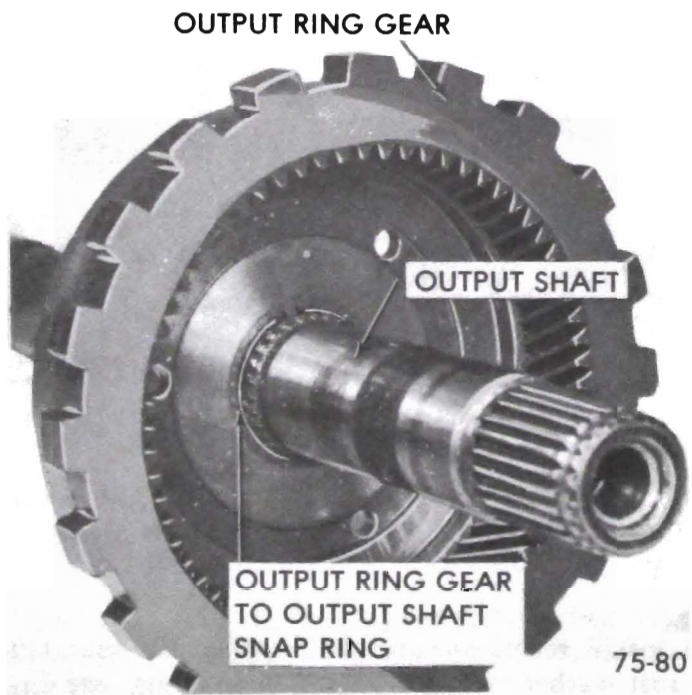

Figure 75-227
1. Install output ring gear to output shaft. Install output ring gear to output shaft snap ring. See Figure 75-227.